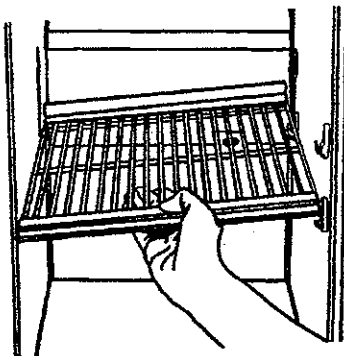

Figure 74
- d. Lower shelf onto snap-lock support tabs and press down until shelf is secure. See Figure 74.